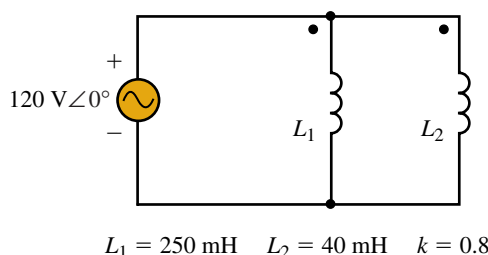

FIGURE 24-79 Coupled parallel inductors.
37. The inductors of Figure 24-79 are mutually coupled. What is their equivalent inductance? If $f = 60 \text{ Hz}$, what is the source current?
- PSpice** Using PSpice, solve for the source current for the coupled parallel inductors of Figure 24-79. Hint: Use XFRM_LINEAR to model the two inductors. You will need two very low-value resistors to avoid creating a source-inductor loop.